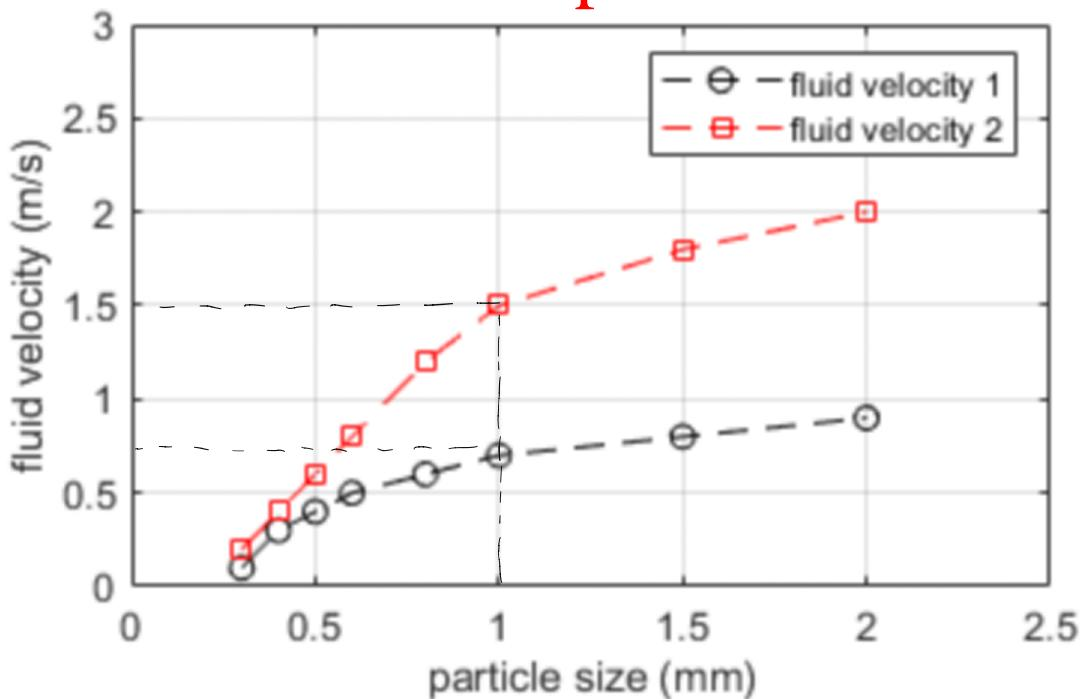

Figure 3: the variation of minimum fluid transportation velocity and cutting size.
- (a) Using Figure 3 estimate the minimum velocity required to transport a 1.25 mm cuttings size, for each fluid? Label the Figure to show how you obtained your estimate.